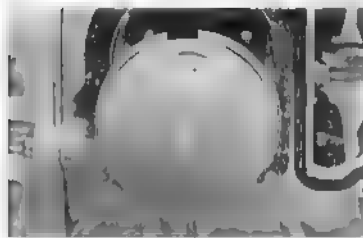

Fig. 3.58 Assembling the piston
The piston must be assembled so that the 'IN' ① stamped on the piston head is toward the top when the engine is in the normal attitude. (Fig. 3.58)